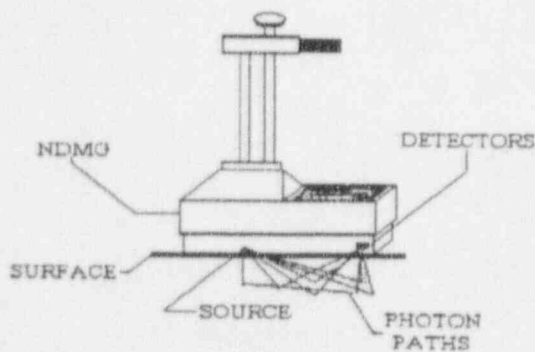
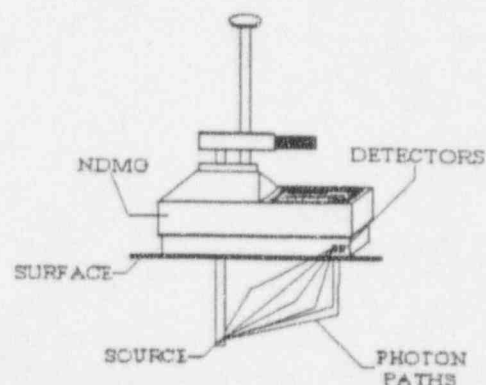

Figure 1
Figure 2
- ◆ There are two modes of operation for density measurements: Backscatter Mode, Source Rod retracted (see Figure 1), and Direct Transmission Mode, Source Rod extended (see Figure 2). The direct transmission mode is considered much more accurate and is always used on soil density tests.